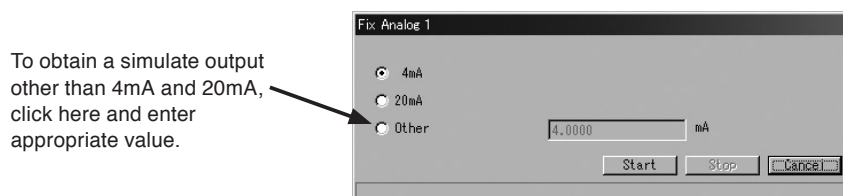

Fig.80
- ② A message box like the one shown in Fig. 80 appears. Select the simulated output level and click on "Start" button. If you want to obtain any current output in analog value (4 to 20mA) other than "4mA" and "20mA", select "Other" key in the analog value for the output desired, and click on "Start".